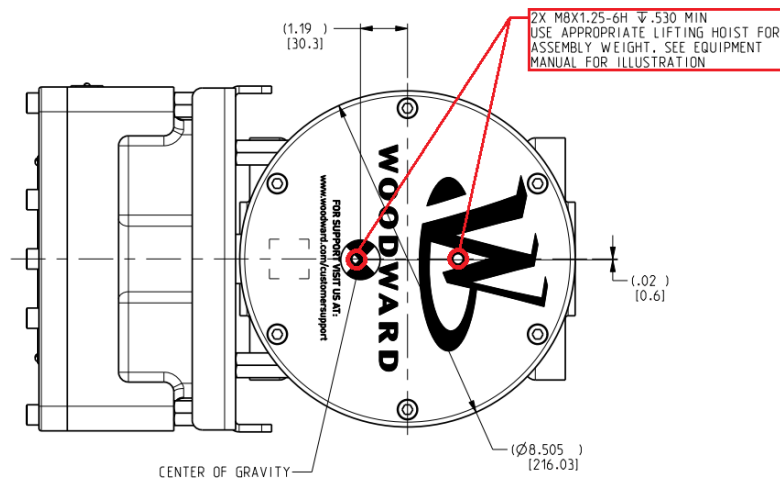

Figure 3-1. GS40 Lifting Eye Hole Locations
1. Carefully support and lower the replacement GS40 valve into the open piping on the skid. Utilize the M8x1.25 holes (located on the top of the GS40; see Figure 3-1) and appropriately rated M8 eyebolts to create a secure lifting point for lifting straps.